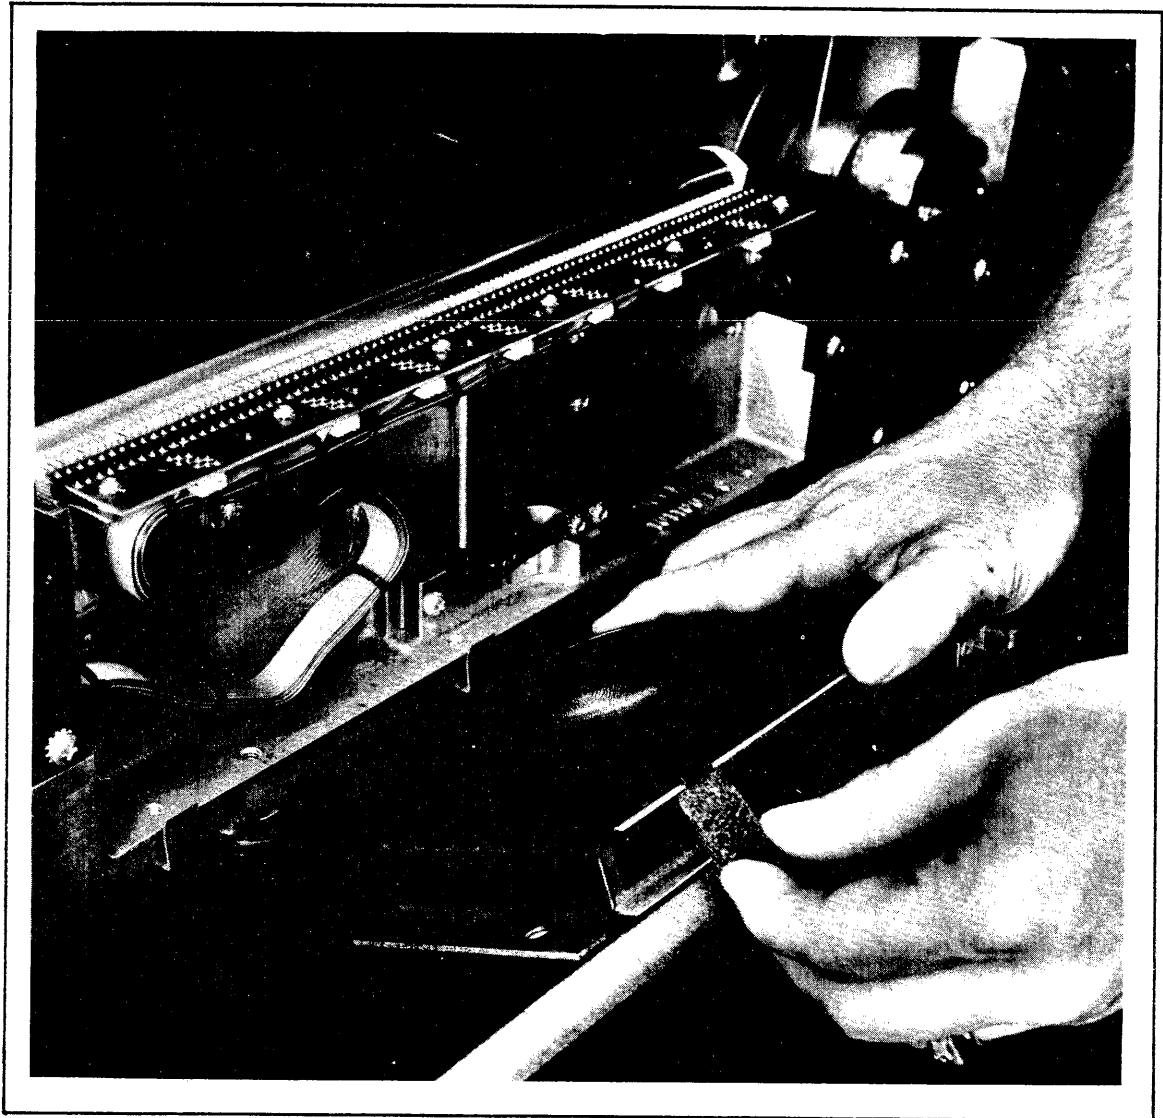

Figure 38 Removing Front Air Filter
- a. Remove ribbon assembly (refer to *Removing and Replacing Ribbon Assembly*), then lift out filter holder and remove filter. (See figure 38.)